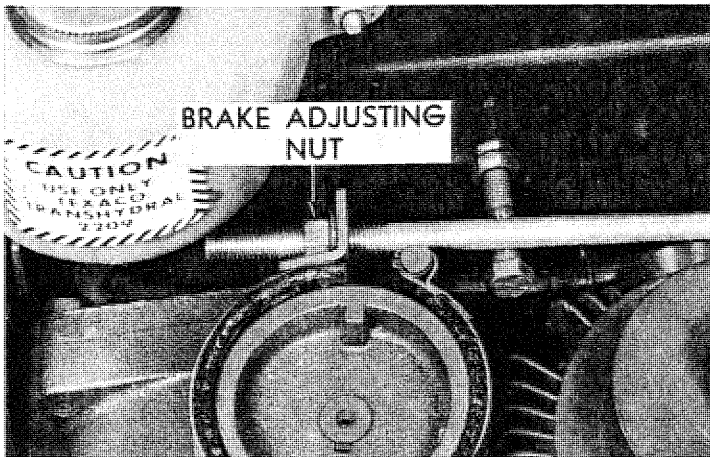

FIGURE 13
- a. Pull the parking brake lever up and lock in the engaged position. Adjust the nut on the end of the brake rod so the brake band is tight on the drum. See Figure 13.